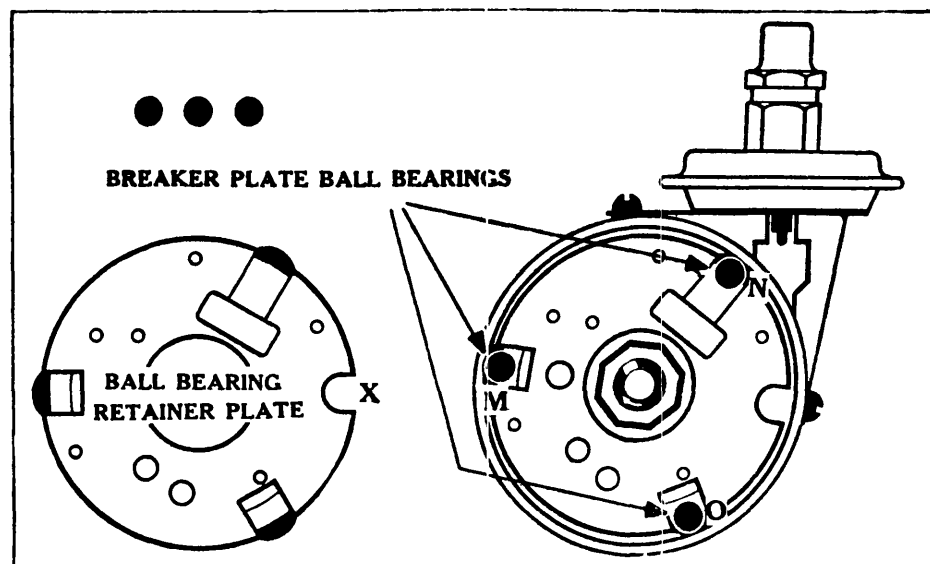

Fig. 8
3. Smear the three steel balls with vaseline, and drop them into place (see Fig. 8).